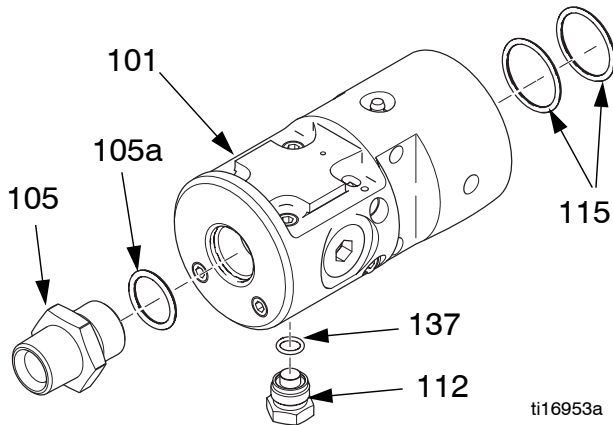

FIG. 7
8. Install o-ring (119) onto air cap (104). Tighten air cap onto air housing (102). Torque to 30 ft-lbs (41 N•m).
9. Install two new o-rings (115) inside the fluid housing. Apply with grease. See FIG. 7.
10. Install new o-ring (137) and reinstall plug (112).
11. Install new o-ring (105a) and reinstall outlet fitting (105). Torque to 30 ft-lbs (41 N•m).